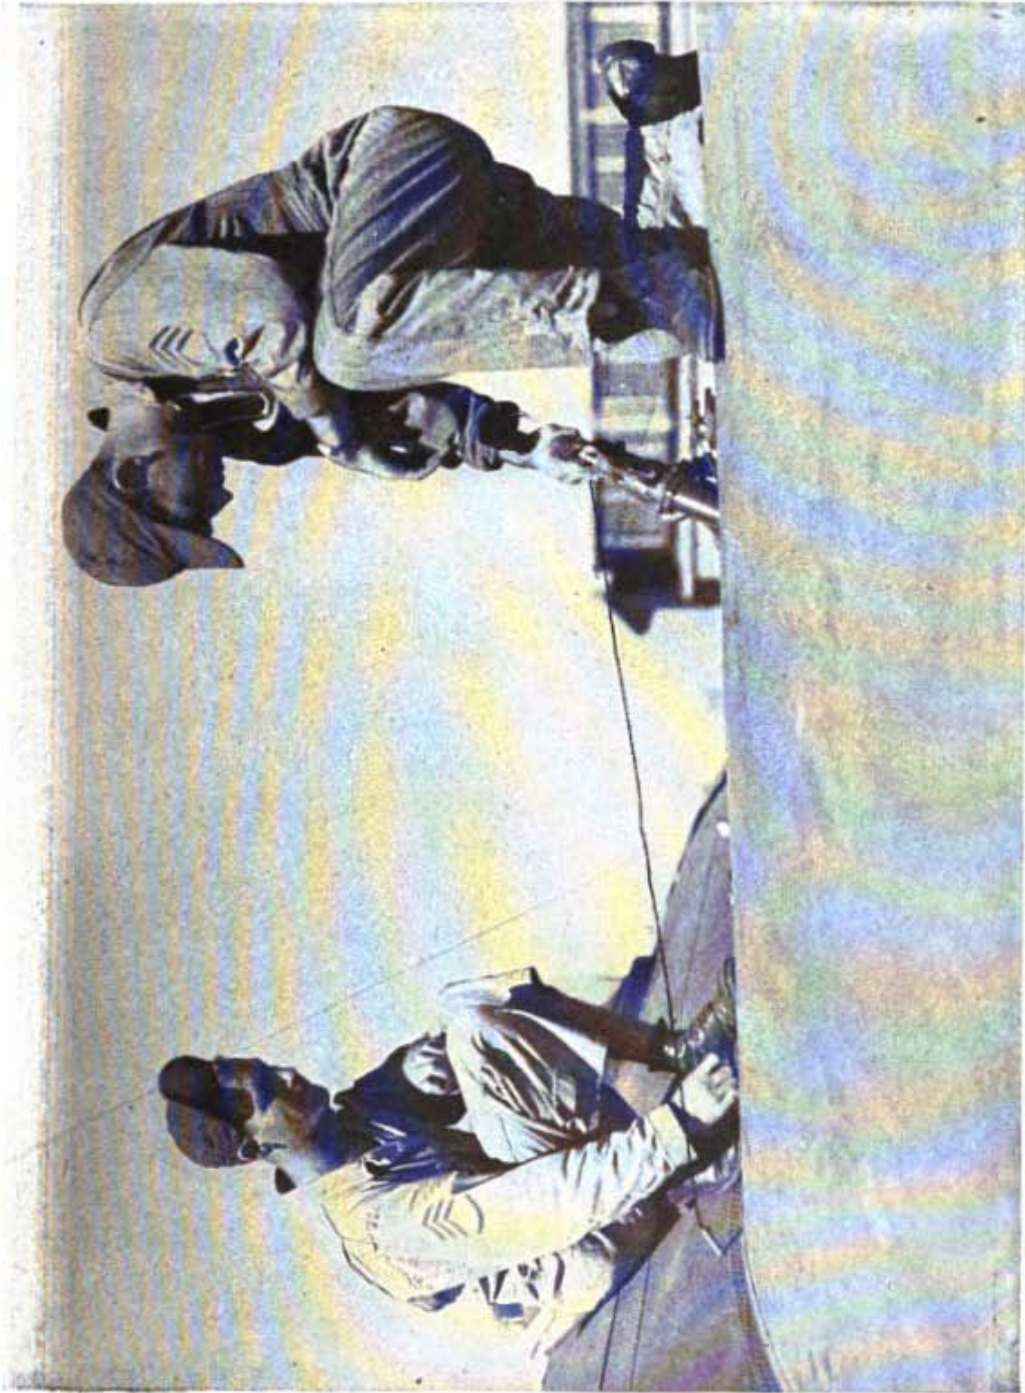

Figure 44. Fuel-hose bonding wire and clamp.
(1) **HOSE GROUNDING.** A metal-lined or otherwise bonded hose is provided to furnish a path through which a static charge may reach the ground. A length of flexible bonding wire and a clamp are permanently attached to the discharge nozzle as shown in figure 44. Whenever the fuel tank is to be filled, the free end of the bonding wire will always be clamped to a convenient uninsulated metallic part of the airplane. This will insure an electrical bond between the tank and the delivery hose. The bonding wire should not be attached next to the filler neck of the tank and it should always be attached to the aircraft before the fuel tank cap is removed. After refueling, the bond will be removed after the cap has been replaced. When possible, filling or draining of fuel tanks will be performed in the open.